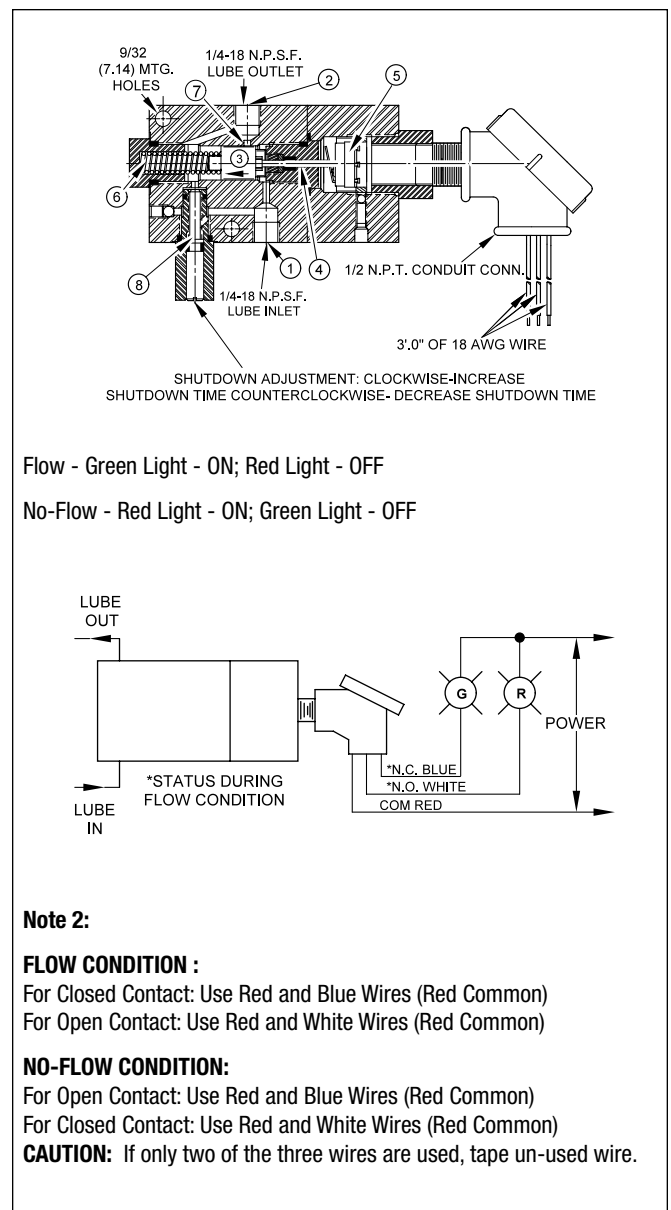

Figure 2. Electric Lube Sentry Valve
OPERATION: Initiate lubricant flow from the lube pump serving the divider valve or pump to point system (until flow has been established, the electric or pneumatic circuit to the Lube Sentry must be bypassed). Lubricant passing through the hydraulic section of the valve (See Figure 1 or 2) from port (1) to port (2) moves to piston (3) in the direction of the arrow. The actuator rod (4) is attached to piston (3) and simultaneously moves in the same direction allowing the directional spool (5) in the air valve of the Pneumatic Lube Sentry (See Figure 1) to permit air to flow between port "A" and port "C" or tripping the microswitch(es). (See Figure 2 Note 2 on the Electric Lube Sentry.) The Lube Sentry is now in a flow position.
When lubricant flow stops, spring (6) returns piston (3) in the opposite direction, closing the porting to the lube outlet (7). The lubricant ahead of piston (3) is forced back through the adjustable needle valve (8) at a controlled rate. As piston (3) returns to the right, the attached actuator rod (4) moves the Pneumatic Lube Sentry directional spool (5) permitting air to now flow between port "A" and port "B" (See Figure 1), or changing the position of the microswitch(es) (See Figure 2 Note 2) on the Electric Lube Sentry. The Lube Sentry is now in a no-flow condition. Figure 1 shows a typical no-flow position.